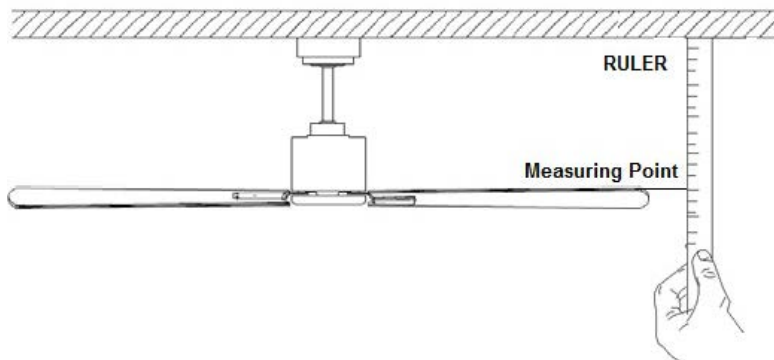

Fig. 13
- Change the position of the DIP switches in the remote transmitter 1, so that it will be different to transmitter 2. Fig.13